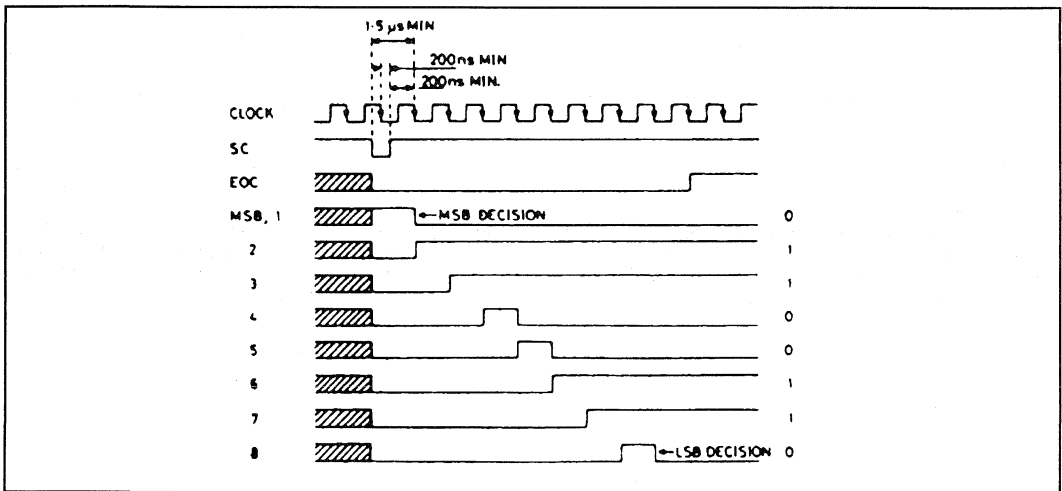

Fig.3 Timing diagram
Operation of the ZN427 is best described with reference to the timing diagram - Fig. 3. Conversion is initiated by a start convert (SC) pulse which can be applied asynchronously with respect to the ZN427 clock providing the following criteria are met.
3. As a special case of conditions (1) and (2) the SC pulse may be coincident with, and of the same duration as, a negative